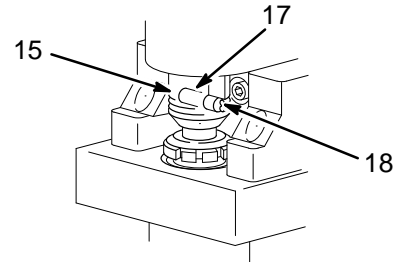

Fig. 23
2. Try to stop the pump with the piston rod (107) in its lowest position. To lower the piston rod manually, rotate the motor fan blades. Use a screwdriver to push the retaining spring (18) up and push out the pin (17). See Fig. 23.